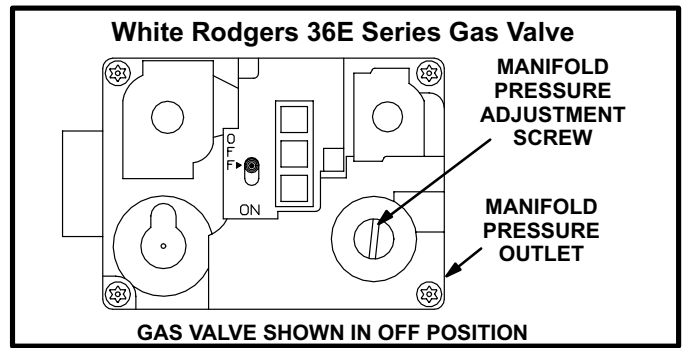
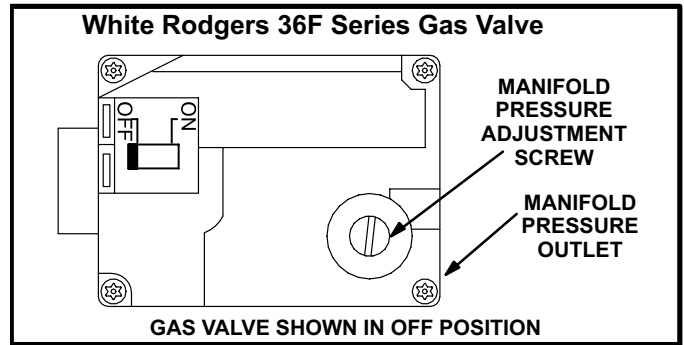

FIGURE 3
FIGURE 4
Operating the Gas Valve (Figures 3, 4 and 5)
- 8 - *White Rodgers 36E/36F Gas Valve* - Switch gas valve lever to **ON**. See figure 3 for the White Rodgers 36E valve and figure 4 for the White Rodgers 36F valve.